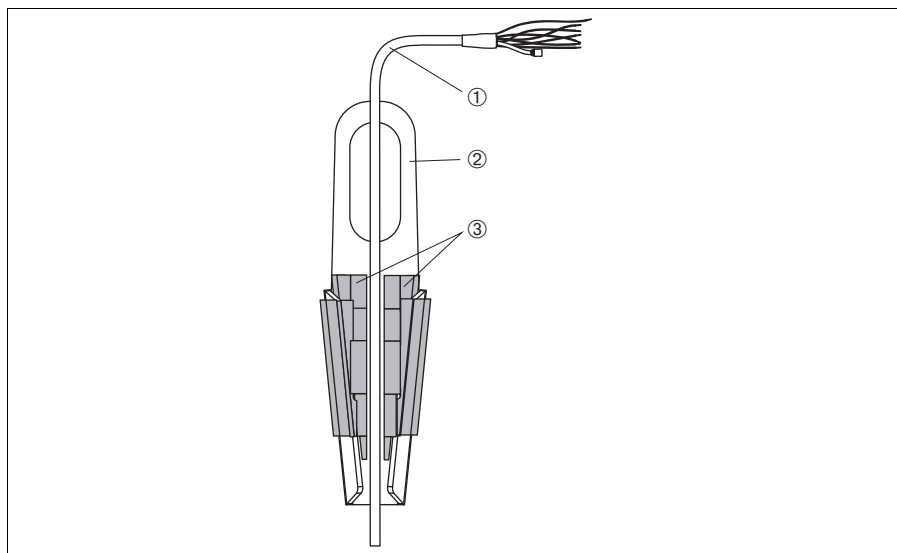

Fig. 1: Mounting with a mounting clamp
1. Mount the mounting clamp (item 2). When selecting the place to fix the unit, take the weight of the extension cable (item 1) and the device into account.
2. Raise the clamping jaws (item 3). Position the extension cable (item 1) between the clamping jaws as illustrated in Figure 1.
3. Hold the extension cable in position (item 1) and push the clamping jaws (item 3) back down. Tap the clamping jaws gently from above to fix them in place.